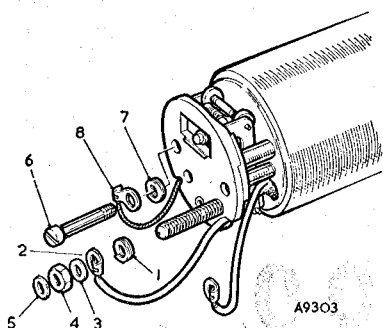

Fig. 4. Attaching the pedestal to the coil housing
3. Assemble the 2 B.A. spring washer (1) (Fig. 4), and put the terminal stud through the 2 B.A. terminal tag (2), then fit the lead washer (3) and the coned nut with its coned face to the lead washer. (This makes better contact than an ordinary flat washer and nut.) Tighten the 2 B.A. nut and finally add the end-cover seal washer (5).
4. Assemble the pedestal to the coil housing (Fig. 4) by fitting the two 2 B.A. pedestal screws (6), ensuring that the spring washer (7) on the left-hand screw (9 o'clock position) is between the pedestal and the earthing tag (8). When a condenser is fitted, its wire clip base is placed under the earthing tag and the spring washer is dispensed with.